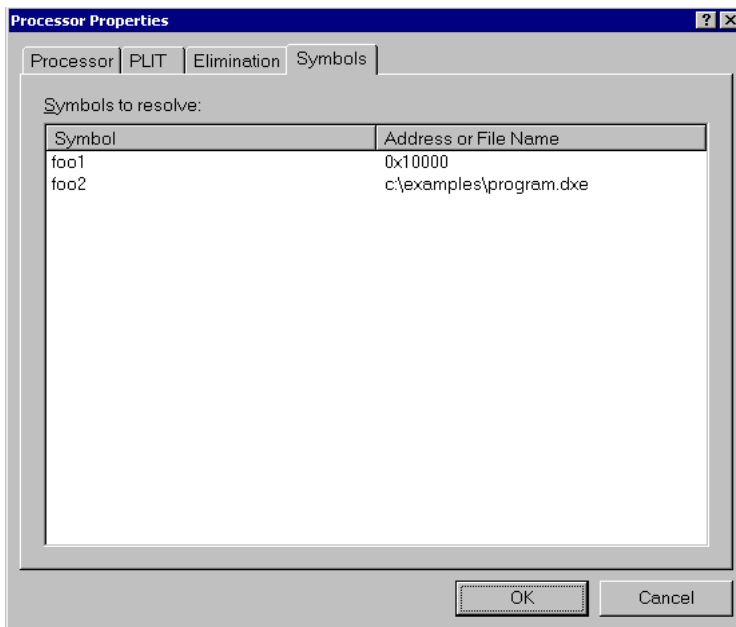

Figure 3-37. Processor Properties Dialog Box – Symbols Tab
1. Click **Browse** to display the **Symbols to resolve** list in the **Symbols** pane (Figure 3-37).